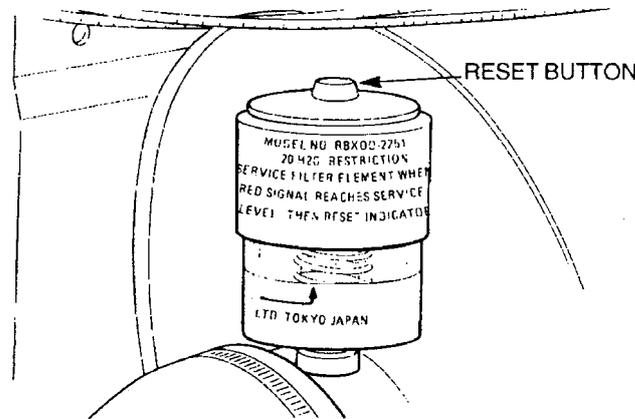

Figure 10 Air Cleaner Service Indicator
42. A service indicator (refer to Figure 10) is incorporated on the air cleaner housing to give a visual indication of air cleaner restriction. When the red float is clearly visible through the window of the indicator, the air cleaner requires servicing. When the air cleaner has been serviced, the service indicator can be reset by pressing the button on the top of the indicator.